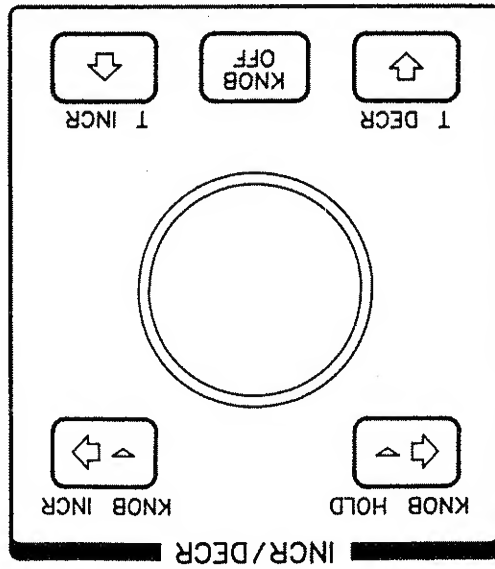

Figure 3-4. Increment/Decrement Keys for Start, Stop, Center, and Span.
- Press one of the increment or decrement front-panel keys shaded in figure 3-4: